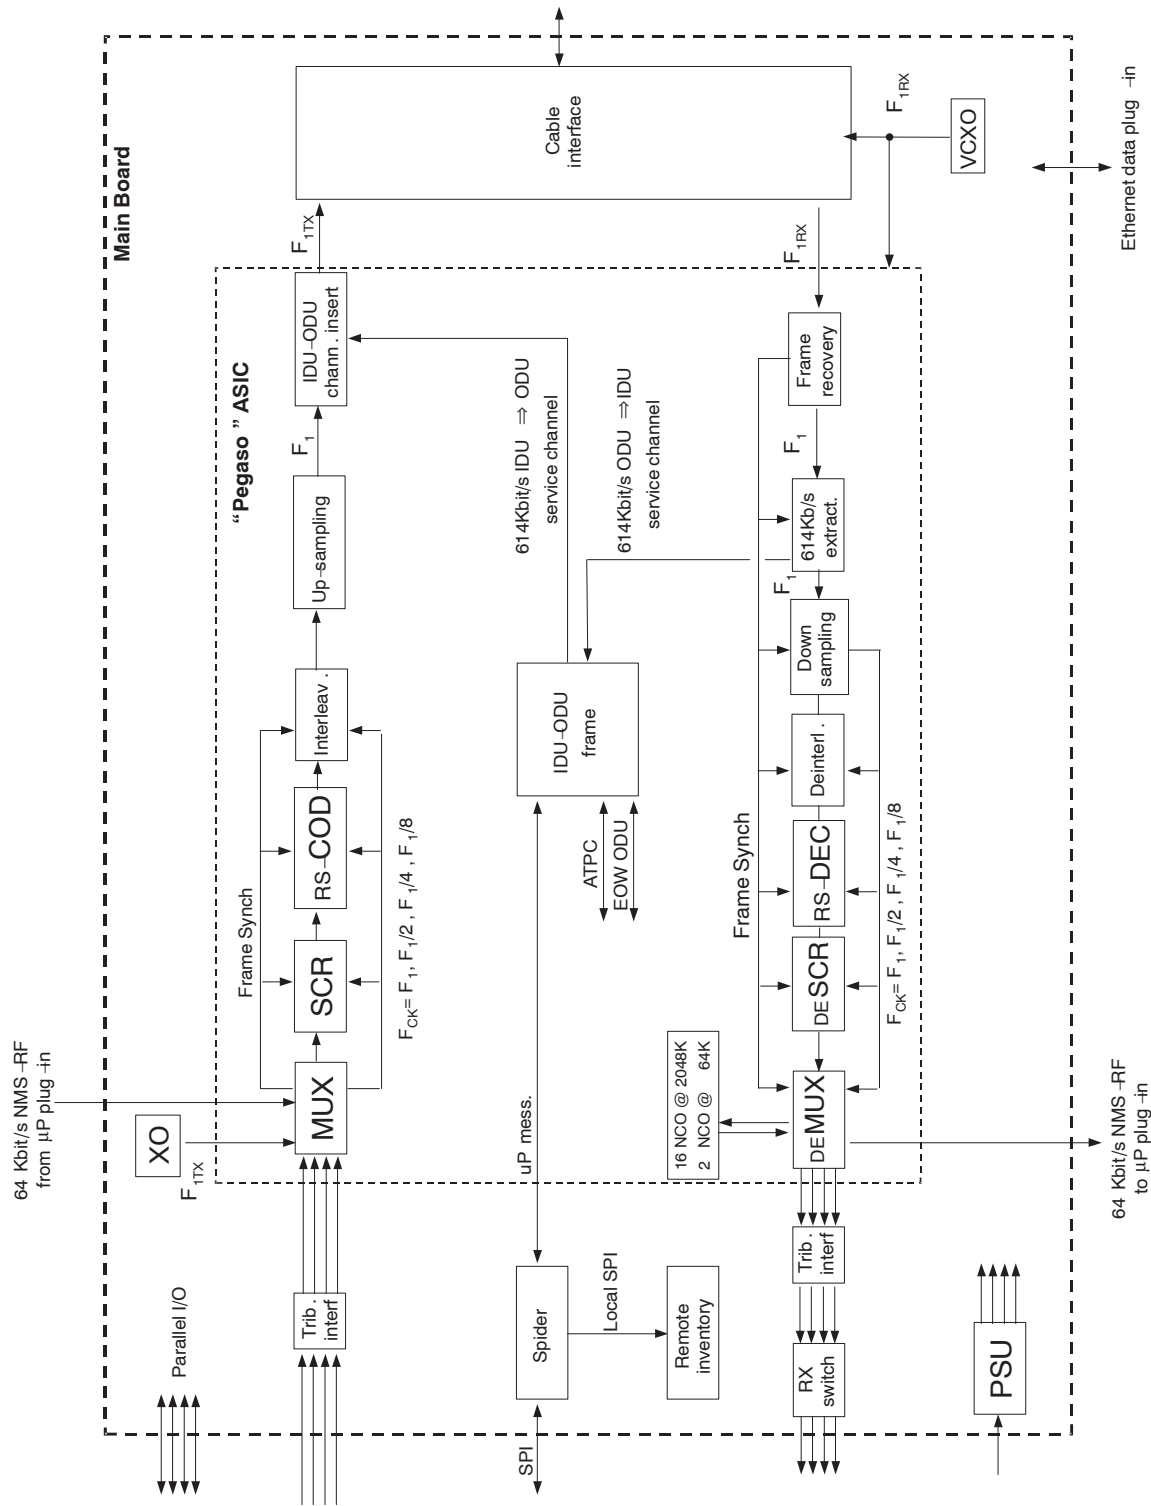

Fig. 71. Muldem Board block diagram
A block diagram of the muldem board is shown in Fig. 71. on page 194; most part of the digital functions are integrated into the "Pegaso" ASIC.
- Muldem board (the motherboard); see Fig. 71. on page 194